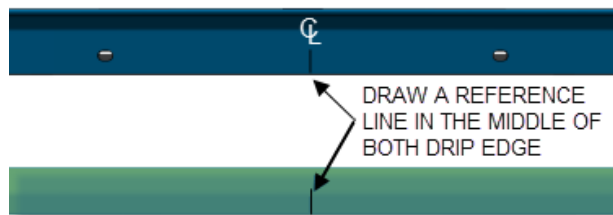

FIGURE 48
8. Draw a line to mark the center of both drip edge (FIGURE 48).